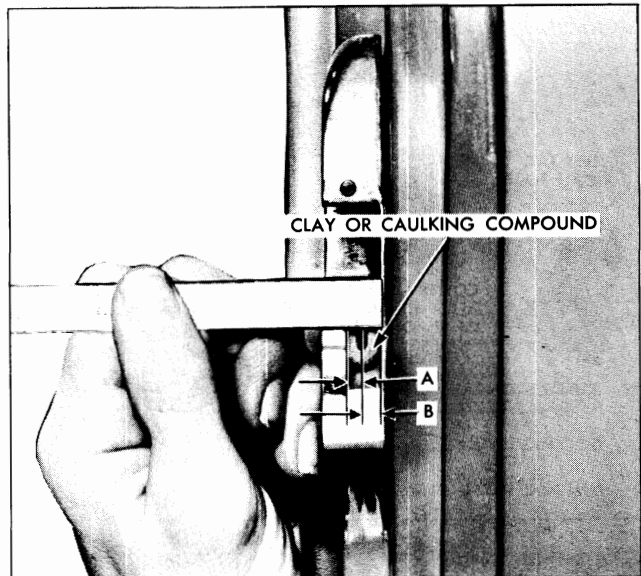

Fig. 5-19 Striker Engagement Check
b. To determine if tail gate lock striker emergency spacers are required, apply modeling clay or body caulking compound in the lock striker notch where the lock extension engages and then close the tail gate to form a measurable impression in the clay or caulking compound, as shown in Fig. 5-19.